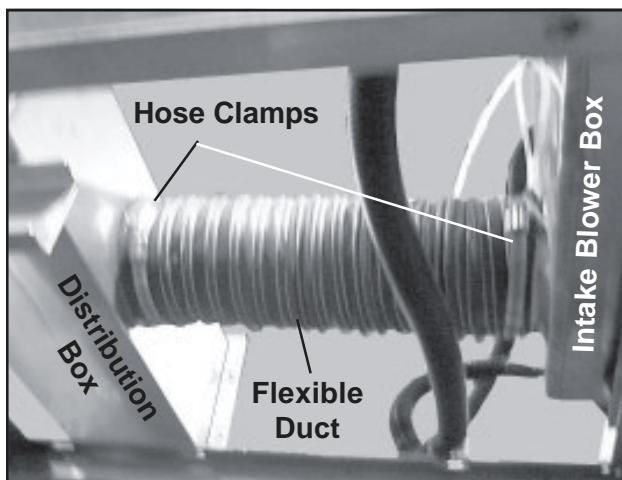

Figure 93. Intake Flexible Duct Mounted in Place
7. Loosen the two hose clamps on the intake flexible duct (Figure 93), and disconnect the duct from the intake blower box and the distribution box.